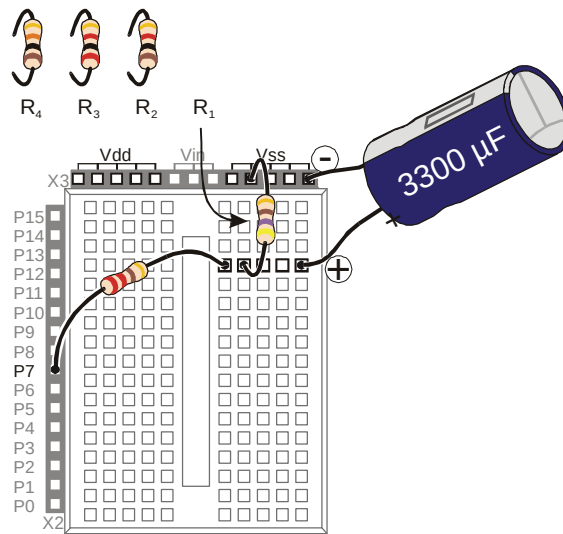

Figure 5-9
Figure 5-8 shows the circuit schematic and Figure 5-9 shows the wiring diagram for this activity. You will be taking time measurements using different resistor values in place of the resistor labeled R_i .
Your 3300 μF capacitor will work fine in this experiment so long as you make sure that the positive (+) and negative (-) terminals are connected EXACTLY as shown in Figure 5-8 and Figure 5-9.
- ✓ Remove the 470 Ω resistor labeled R_i in Figure 5-8 and Figure 5-9 on page 146, and replace it with the 1 k Ω resistor.